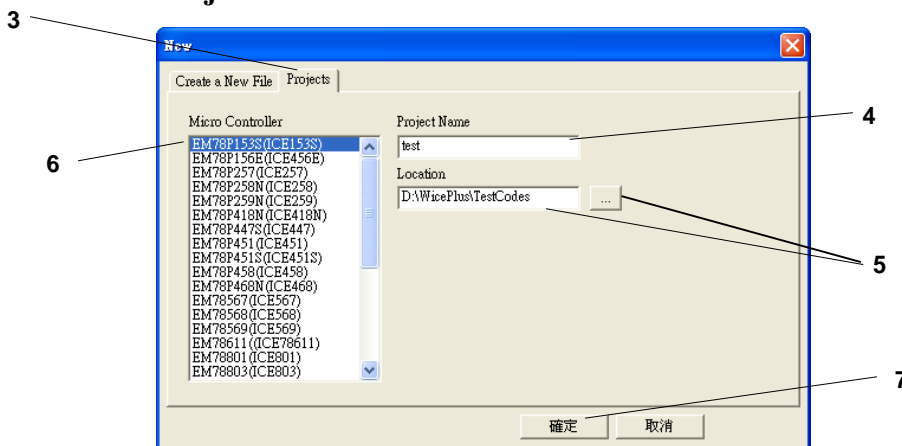

Fig. 3-5 "New" Dialog Showing Project Tab for Creating New Project (Derived from **File** Menu)
2. The **New** dialog (shown below) will then display if you have clicked the **New** command from the **File** menu. Otherwise, **New Project** dialog will display (Fig. 3-5) if the **New** command is derived from **Project** menu.